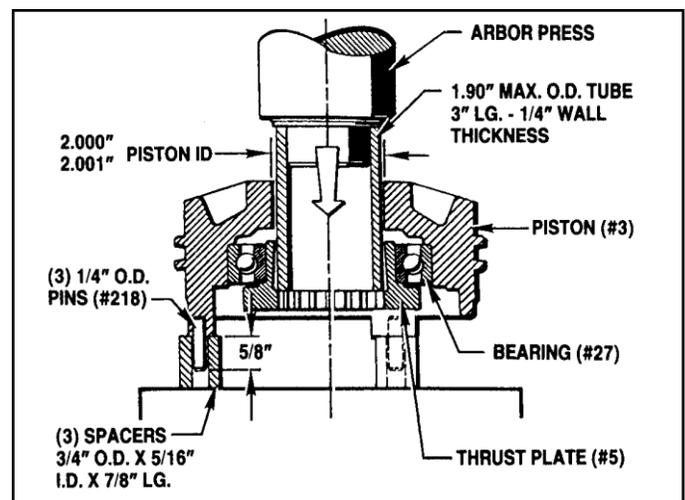

Figure 7.07 - Removing Bearing (#27)
1. Using an Arbor Press as shown in Figure 7.07 press the Thrust Plate (#5) and Bearing (#27) out of the Piston (#3).
Do not press on the Pins (#218). Use spacers as shown (or equivalent) in Figure 7.07.